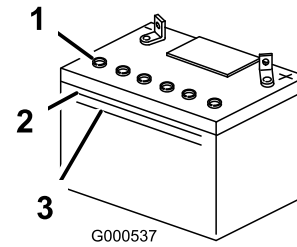

Figure 55
not allow the electrolyte to fall below the lower line (Figure 55).
3. Look at the side of the battery. The electrolyte must be up to the **upper** line (Figure 55). Do
5. Remove the vent caps from the battery (Figure 55).
6. Slowly pour distilled water into each battery cell until the electrolyte level is up to the Upper line (Figure 55) on the battery case.
7. Wait 5 to 10 minutes after filling the battery cells. Add distilled water, if necessary, until the electrolyte level is up to the Upper line (Figure 55) on the battery case.